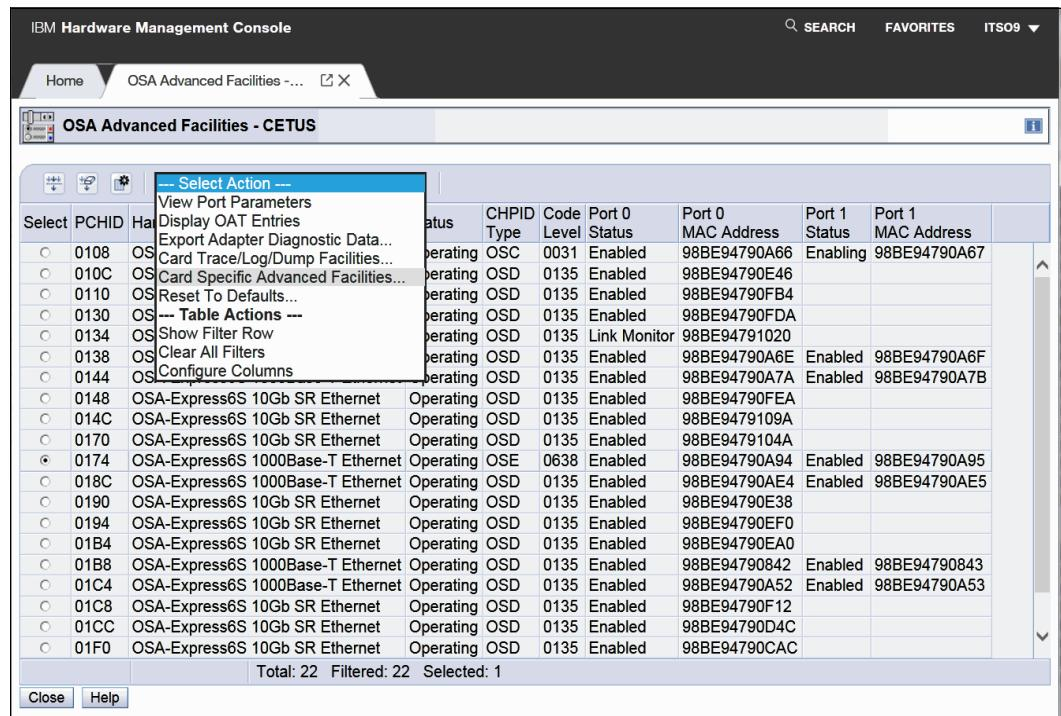

Figure 6-6 Entering OSA/SF on the HMC
2. The OSA Advanced Facilities window opens (Figure 6-6). Select the OSE channel PCHID you want to customize. In this example, we selected PCHID 0174. Then select **Card specific advanced facilities** from the **Select Action** menu, as shown in Figure 6-6.